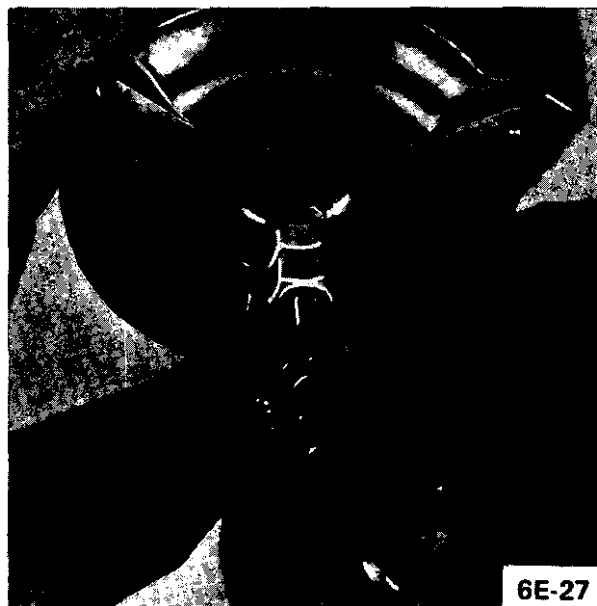

Figure 6E-27 Checking Vacuum Case Brass Bushings
17. Install secondary vacuum diaphragm case assembly. See Figure 6E-28.